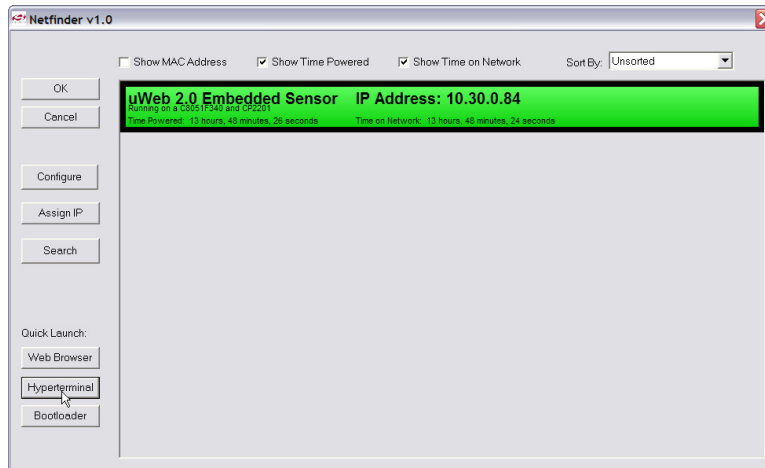

Figure 12. Initiating a Telnet Connection From Netfinder
4. From Netfinder, select an embedded system and press the **Hyperterminal** quick launch button as shown in Figure 12. This button initiates a Telnet connection with the selected CP2201EB using the default Telnet client on your PC.